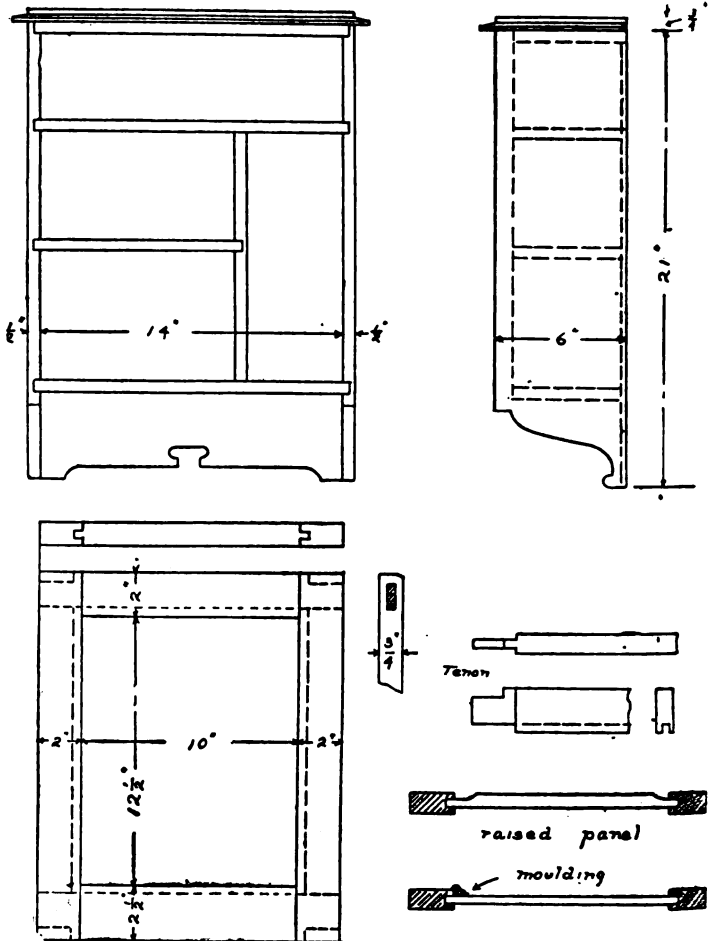

Fig. 194. The medicine cabinet
**T**HE wall cabinet for drugs and toilet articles, where the various household remedies may be found quickly, is illustrated in Fig. 194.